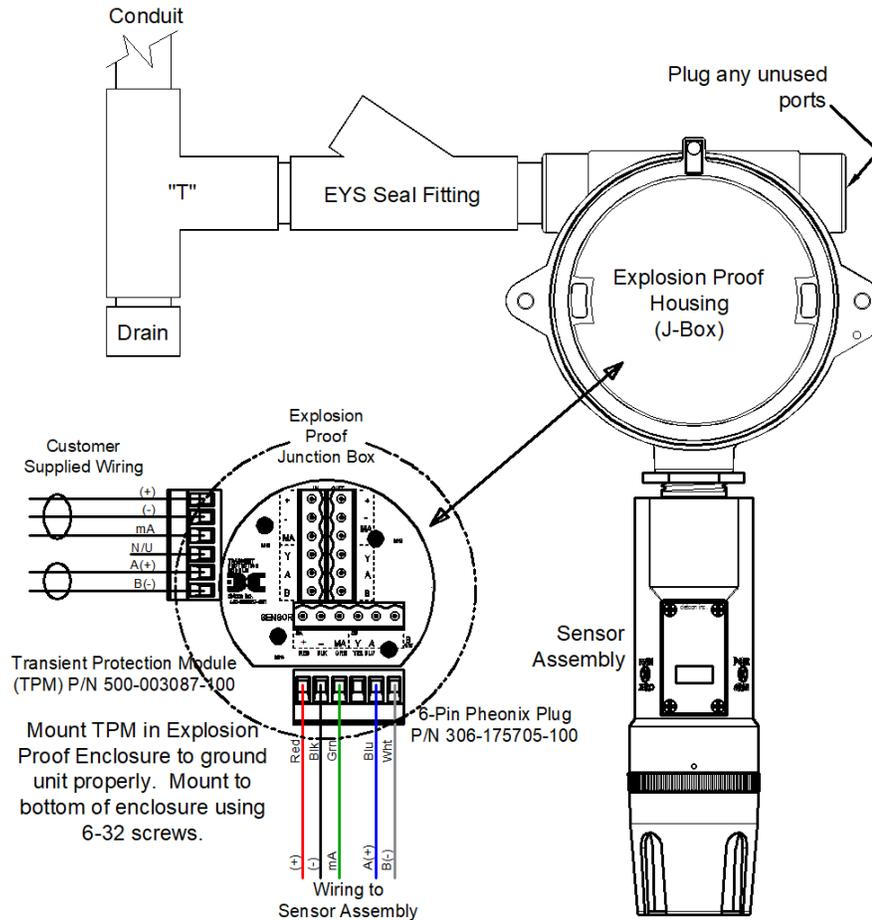
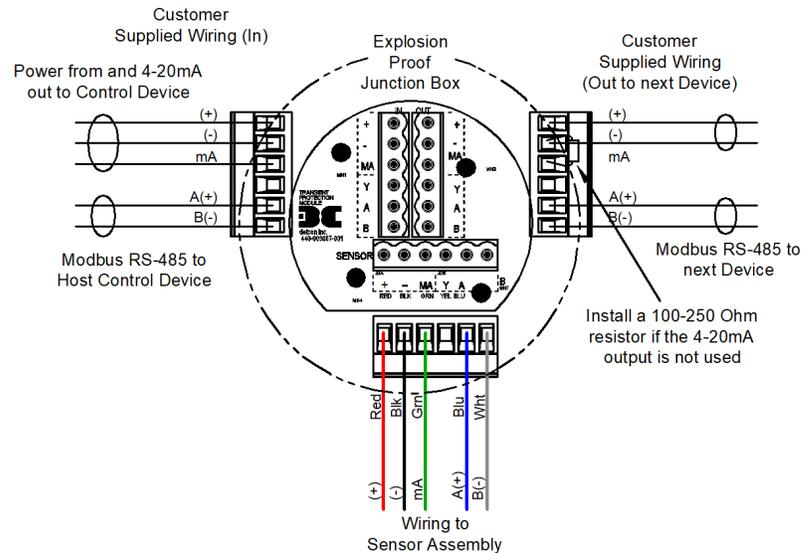

Figure 58 Typical Installation
Figure 59 Sensor Wire Connections
NOTE: All installations of the gas sensor should point straight down (refer to Figure 58). Improper sensor orientation may result in false readings and permanent sensor damage.
Proper electrical installation of the gas sensor is critical for conformance to Electrical Codes and to avoid damage due to water leakage. Refer to Figure 58 and Figure 59 for proper electrical installation.
NOTE: If a conduit run exits the secondary port, repeat the installation technique shown in Figure 58.
In Figure 58, the drain allows water condensation inside the conduit run to safely drain away from the sensor assembly. The electrical seal fitting is required to meet the National Electrical Code per NEC Article 500-3d (or Canadian Electrical Code Handbook Part 1 Section 18-154). Requirements for locations of electrical seals are covered under NEC Article 501-5. Electrical seals also act as a secondary seal to prevent water from entering the wiring terminal enclosure. However, they are not designed to provide an absolute water-tight seal, especially when used in the vertical orientation.
NOTE: For products utilizing the aluminum junction box option, the conduit seal shall be placed at the entry to the junction box (see Figure 58 as an example). For products utilizing the stainless steel junction box option, the conduit seal shall be placed within 18" of the enclosure. Crouse Hinds type EYS2, EYD2 or equivalent are suitable for this purpose.
CAUTION: Do not apply System power to the sensor until all wiring is properly terminated. Refer to Section 9.2.6 Figure 59.
- Observing correct polarity, terminate the 3-conductor 4-20mA field wiring (+, -, mA) to the sensor assembly wiring in accordance with the detail shown in Figure 59. If the 4-20mA output is not used, the green wire from the sensor must be connected to the (-) terminal on the Transient Protection Module.
- If applicable, terminate the RS-485 serial wiring as shown in Figure 59. Use the second plug (Out) as termination point on the customer side to facilitate a continuous RS-485 serial loop